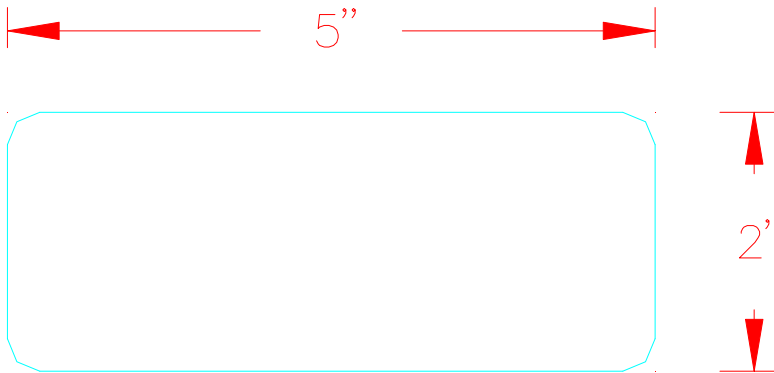

Figure 3
26) Next, make two doublers from .032 raw stock (W-143). Figure 3.